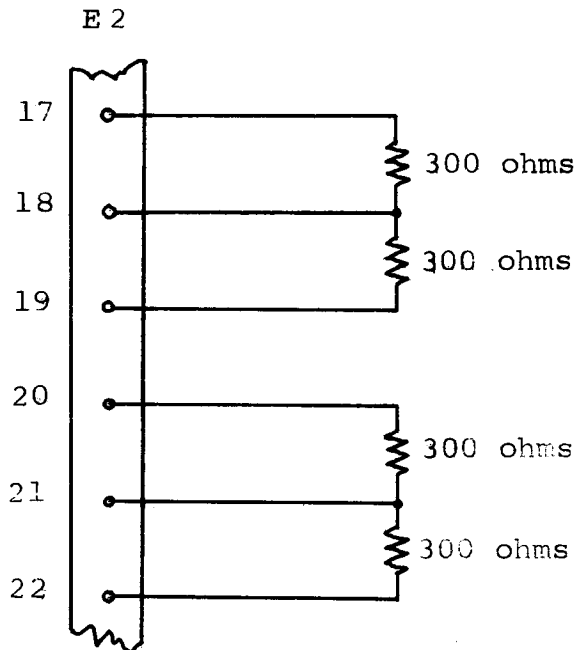

Figure 1
- C. Connect 300 ohm loads, as shown in figure 1, at the 600 ohm balanced output terminals of E2; 17, 18, 19 20, 21 and 22.